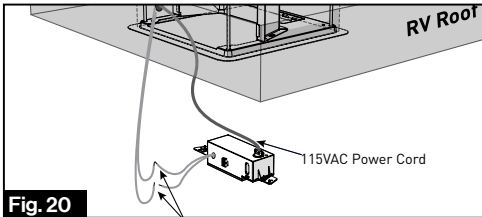

Fig. 20
9. Find the furnace cables of the control box, which are two separate grown wires tagged with "FURN". And then connect them with the corresponding wires of the rooftop unit. (Fig. 20)